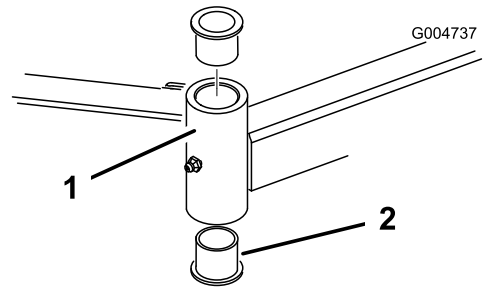

Figure 20
4. Insert a pin punch into the top or bottom of the mounting tube and drive the bushing out of the tube (Figure 20). Also, drive the other bushing out of the tube. Clean the inside of the tubes to remove dirt.